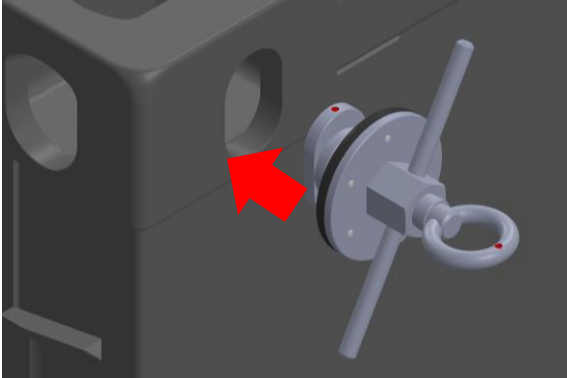

Fig. 8 Installing an NPK_L lock in the oval slot of a container corner
- Place the lock of the NPK in the slot of the container corner (fig. 8). The red dot should be visible looking from the top or the bottom of the container while the lock is being inserted. In the case of NPK_T for shield-shaped slots, put the lock in at an angle, tilting the device towards the container wall (fig. 9)..